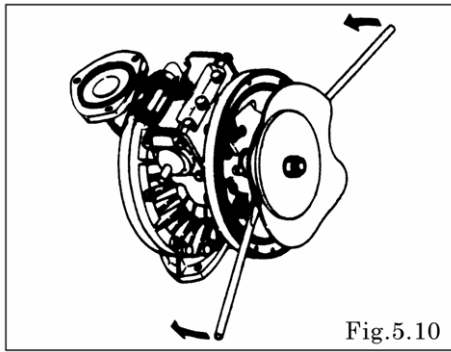

Fig.5.10
- Grip the inside center disk using crowbars and draw it to the opposite side, then turn the diaphragm over. (exclude B_H, B_S type) [Fig. 5.10, 5.11]